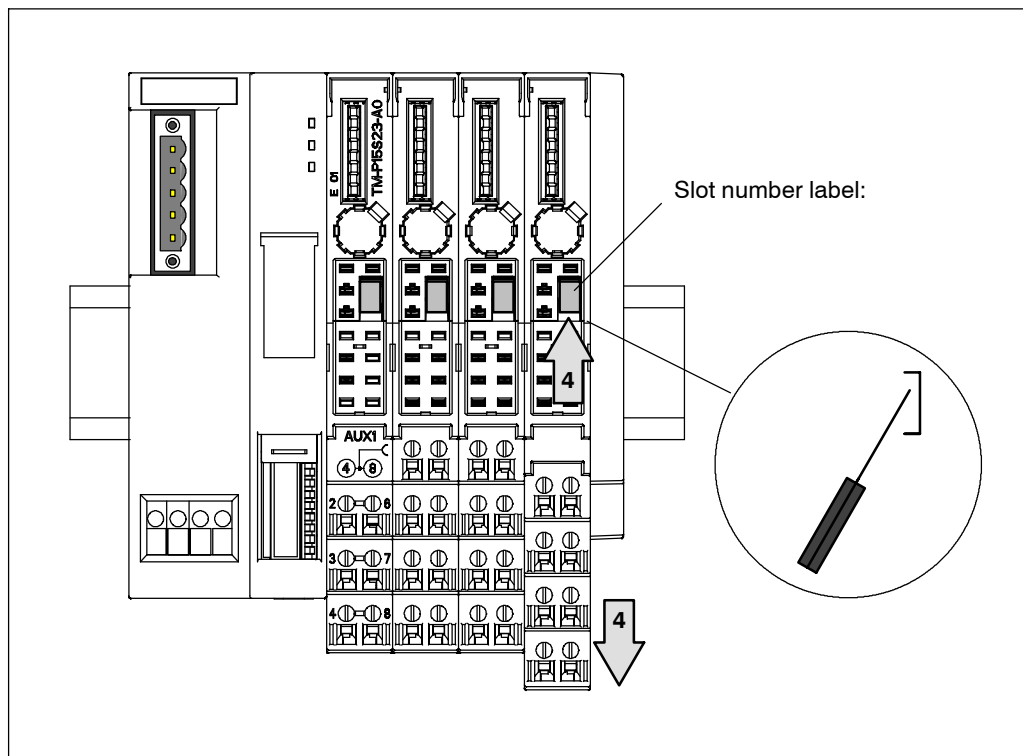

Figure 4-5 Replacing the Terminal Box on the Terminal Module
5. Replace the terminal box, and insert the new one into the terminal module from above (position: see Figure 4-5). Then push the terminal box upward until it snaps into place.